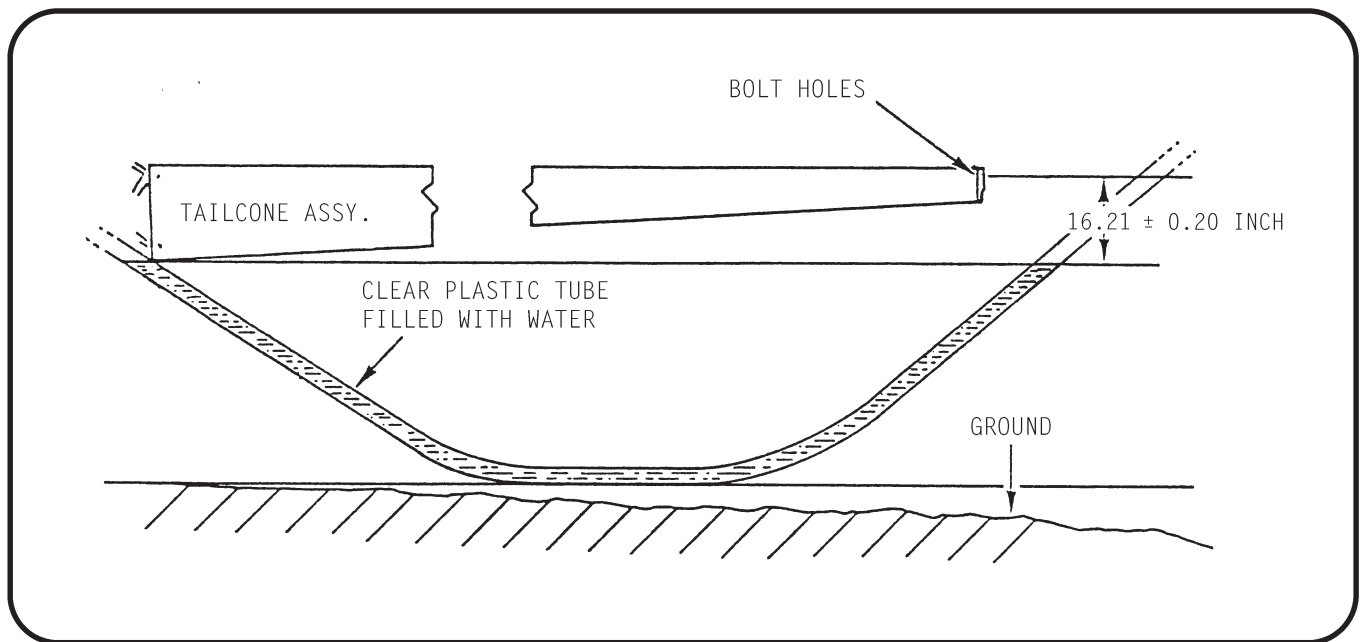

FIGURE 4-2C TAILCONE HORIZONTAL LEVELING
5. Refer to Figure 4-2C. Use a water level and measure the difference in vertical height between forward end of tailcone (at lowest point) and horizontal centerline (left & right bolt holes) of aft bulkhead's gearbox mounting surface. Using stand, adjust height of tailcone to 16.21 ± 0.20 inches.